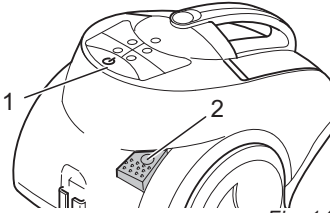

Fig. 14
1. Switch off the steam cleaner using the on/off switch (Fig. 14/1) and pull the plug out of the socket.
3. Press the cable retract button (Fig. 14/2) to pull in the power cable. Guide the last part with the plug by hand.